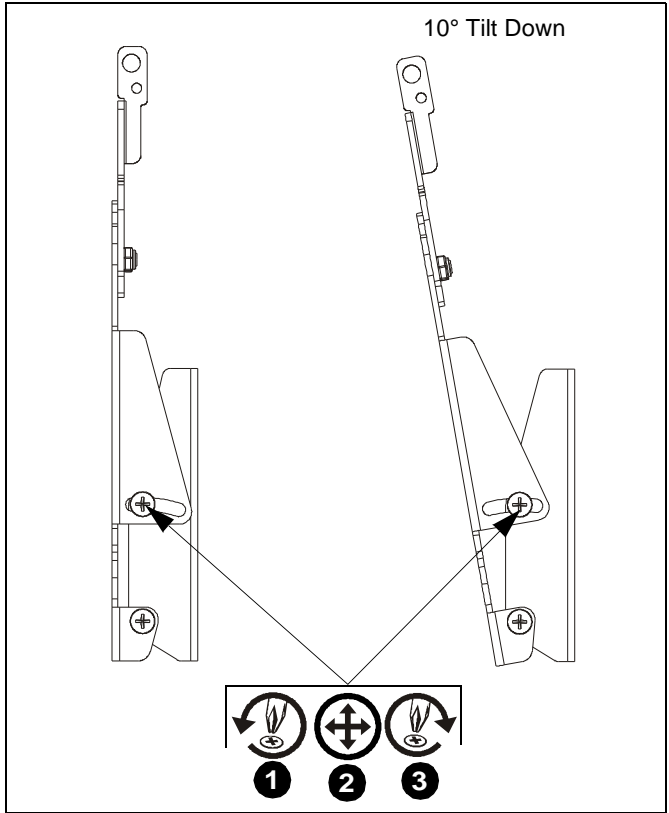

Figure 8
1. Loosen adjusting screws on each side of display (See Figure 8).